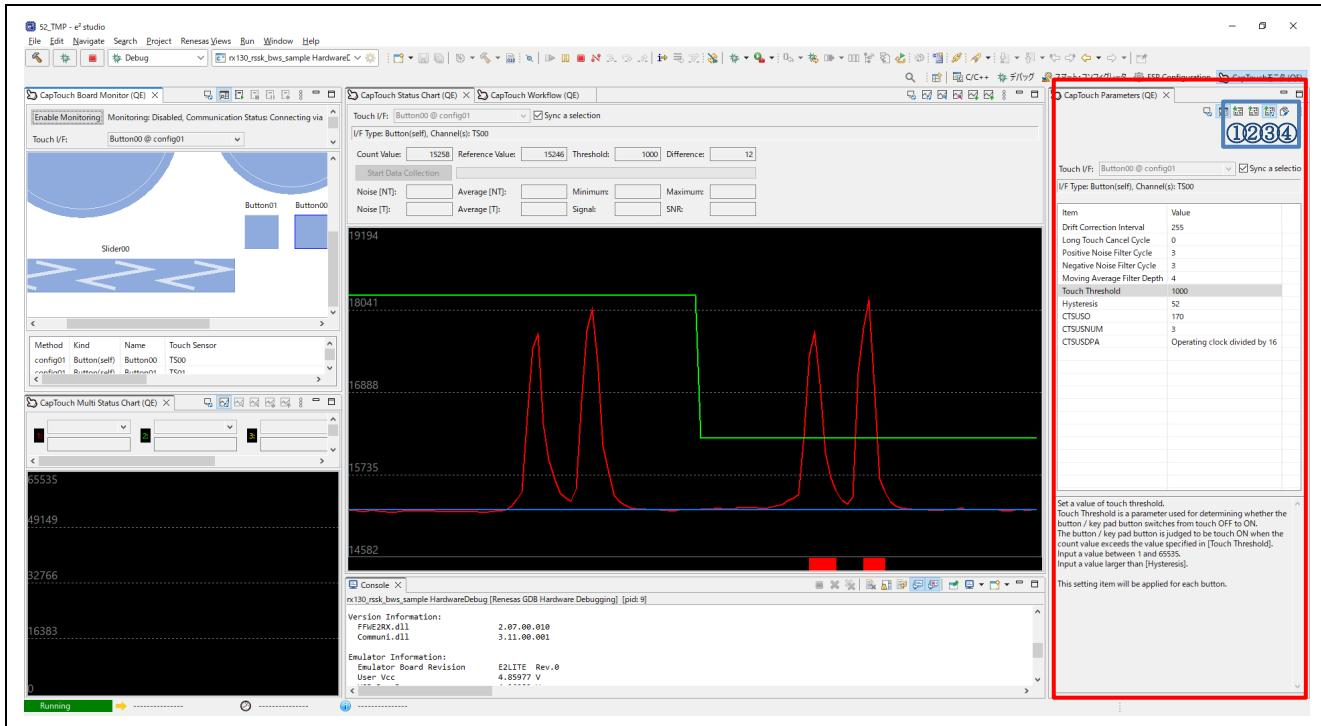

Figure 1-3 Manual Tuning with QE for Capacitive Touch
For Manual tuning , use the "CapTouch Parameters (QE)" in QE for Capacitive Touch (in red box in Figure 1-3). You can change the parameter and check the operation after adjusting it from the "CapTouch Status Chart (QE)" in real time. Parameters adjusted in this view can also be reflected in the source file. Refer to Table 1-2 for explanations of the functions of the "CapTouch Parameters (QE)" tool bar (in the blue frame in Figure 1-3) used when performing manual tuning. Parameters can be read and written to the application via the CapTouch Parameter icons.